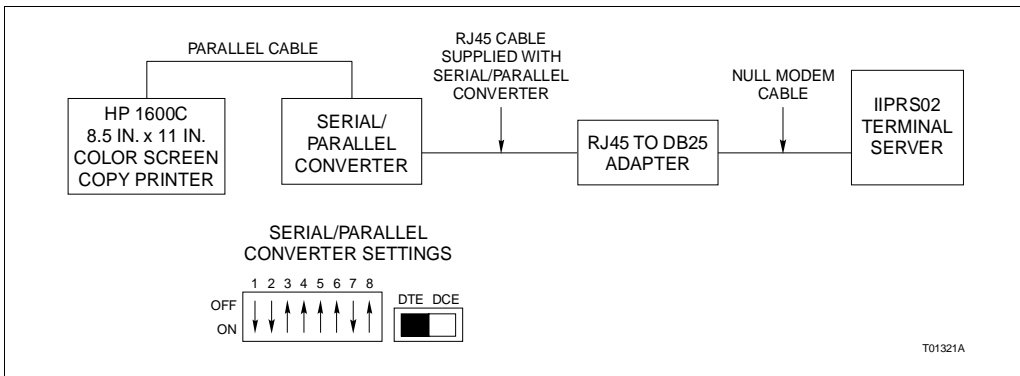

Figure PR58-1. Printer Cable Configuration and Dipswitch Settings
- 3. Connect the parallel cable from the printer to the serial/parallel converter.(Fig. PR58-1).